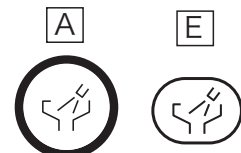

Fig.3-5 Bowl Flush Switch
③ Bowl Flush Switch (Fig.3-5) **A** **E**